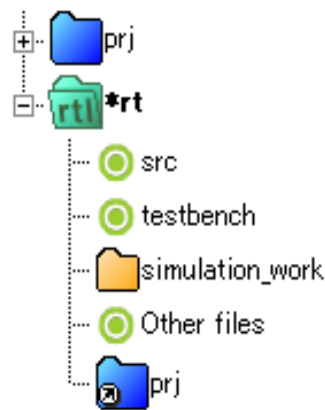

Figure 4-7 Project link
- Contents: Link can be generated for any intermediate project and RTL project in open workspace under other intermediate project or RTL project. For details of results, please refer section 4.4. Figure 4-7 shows link to project prj placed under project rt. Link prj does not exist under the directory corresponding to project rt. In case of lower hierarchy etc., when project prj contents are referred with project rt, then project prj that is to be used is directly referred.